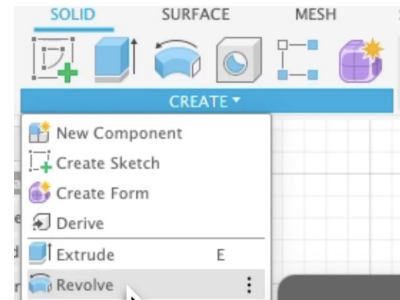

Figure 1.1
- The '**Revolve**' feature is useful for creating parts that rotate around an axis, such as knobs, pins, or cylindrical parts. The '**Revolve**' tool is underneath the '**Create**' dropdown (see Figure 1.1).